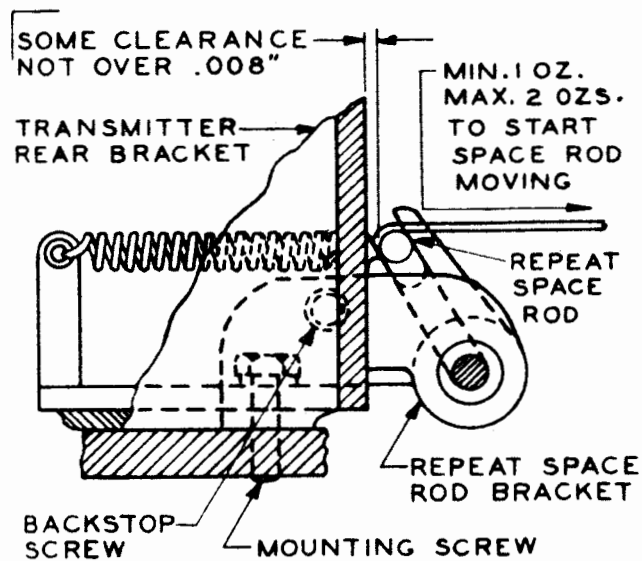

Figure 18B — Two-piece Repeat-space-rod Bracket
(2) On units having the two-piece repeat-space-rod bracket, the spacebar should be fully depressed. See Figure 18B.